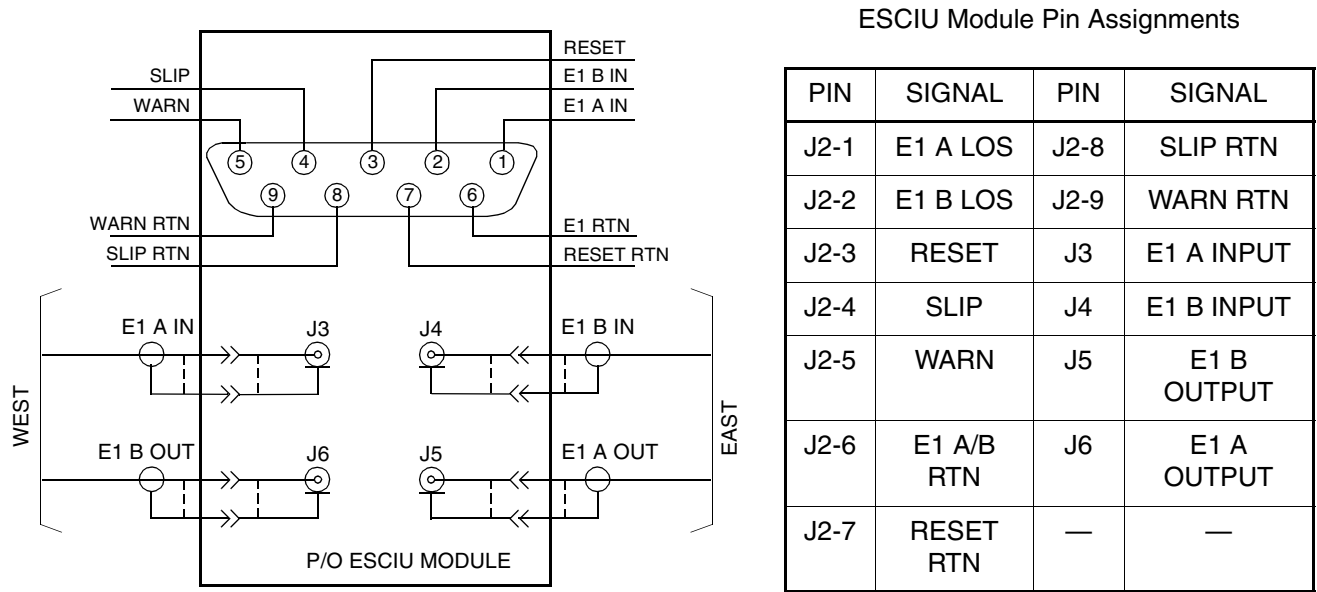
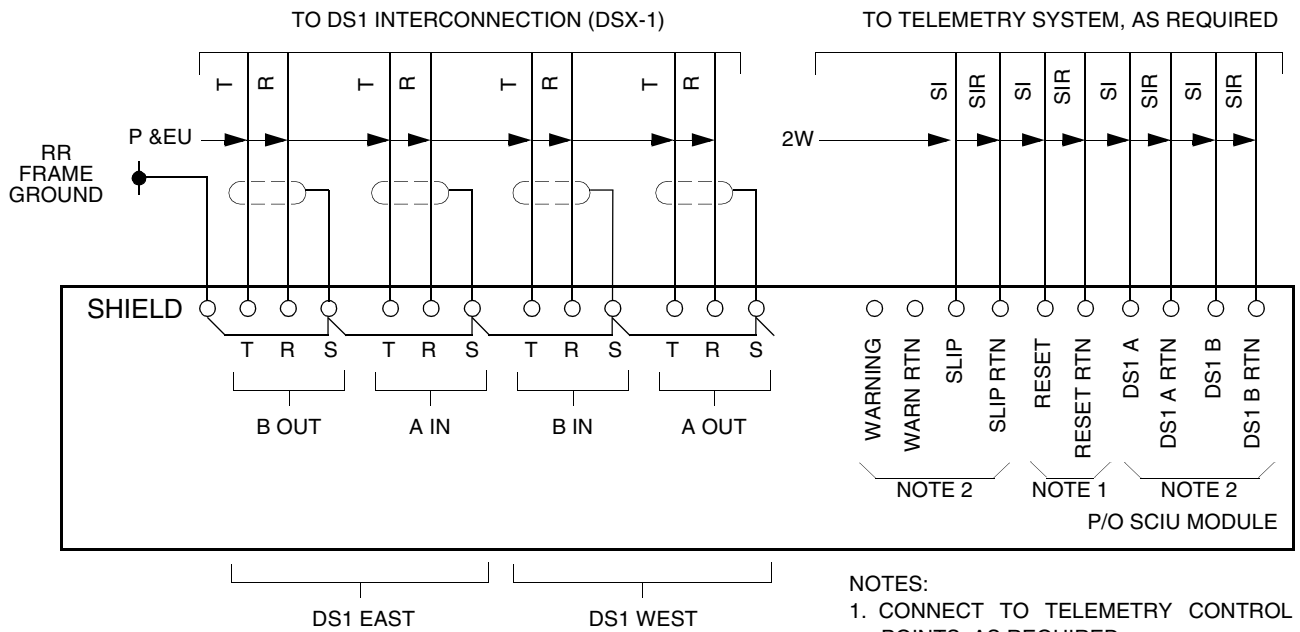
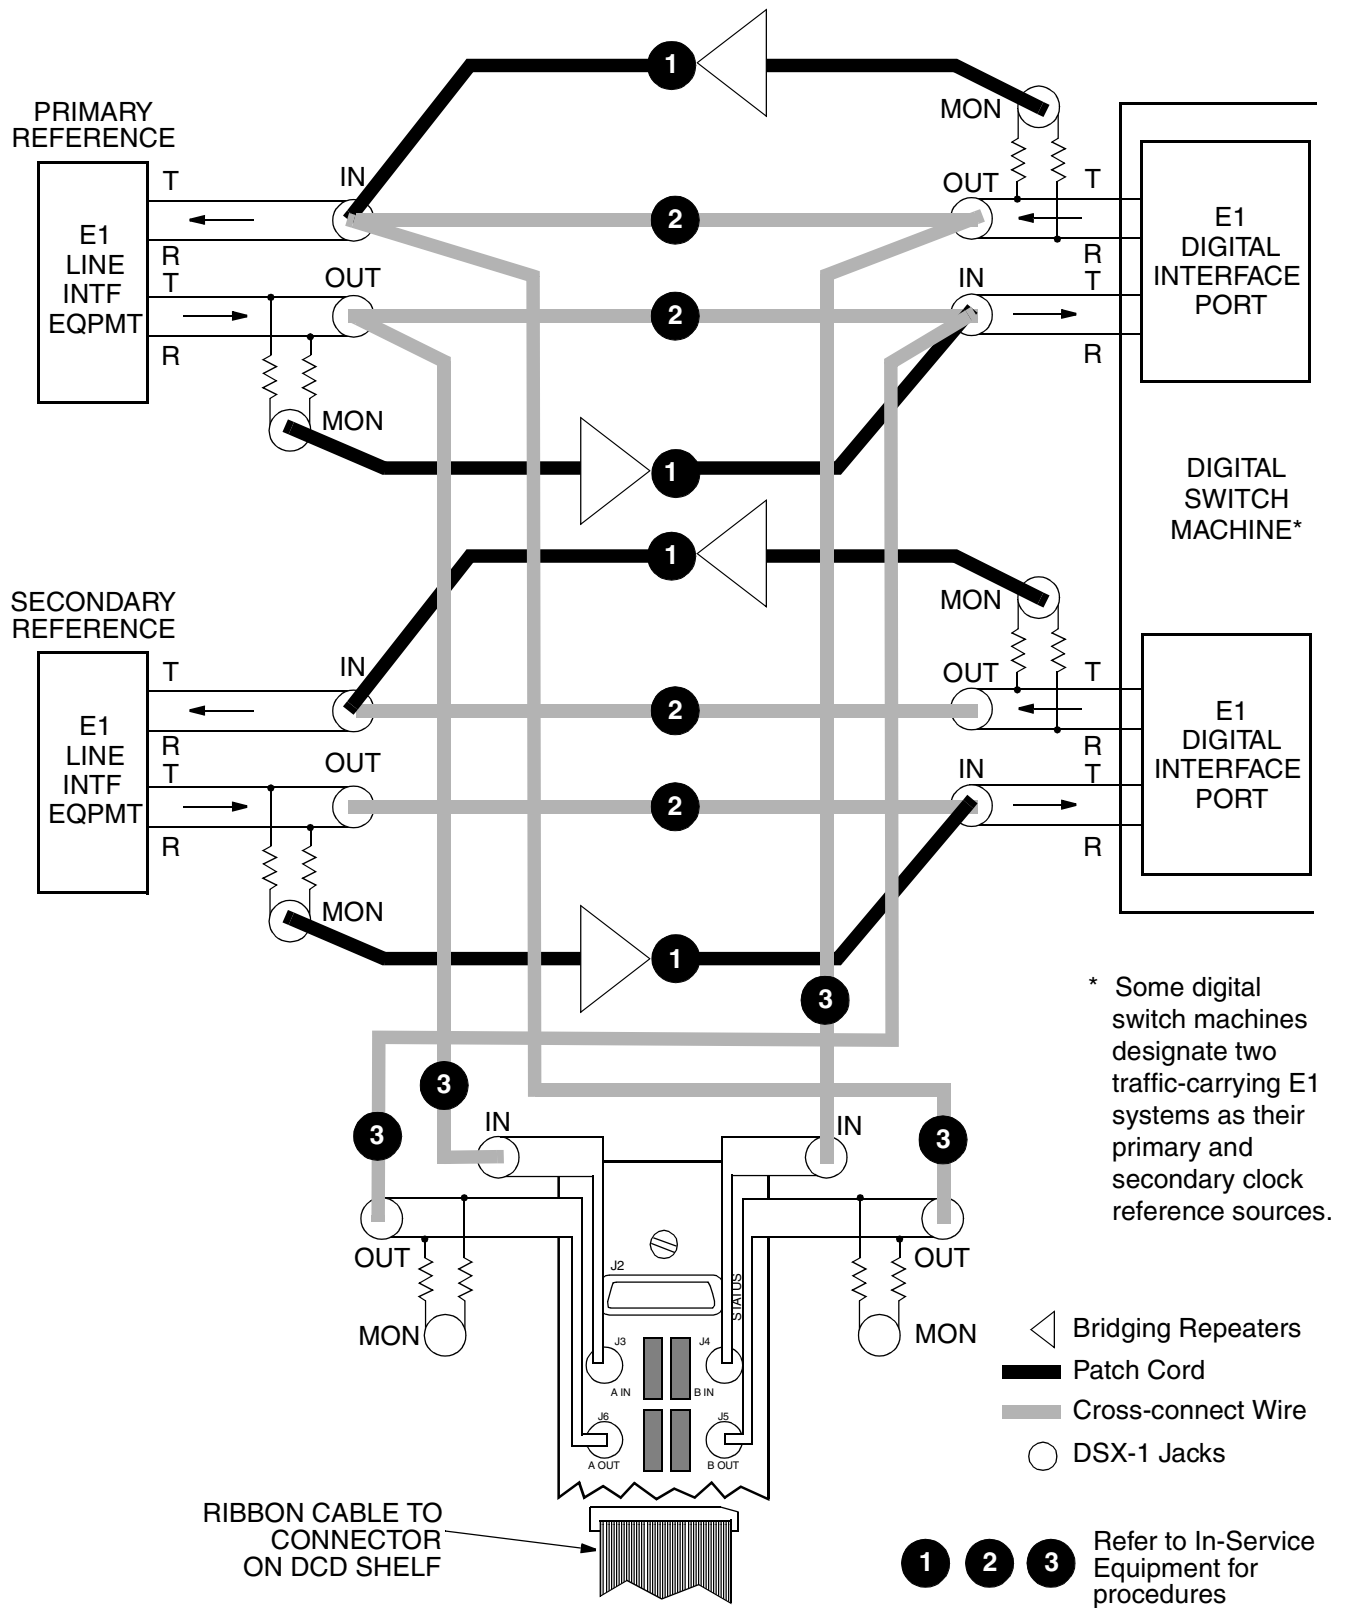

Figure 43. ESCIU Interface Module
Figure 44. SCIU Interface Module
Figure 47. ESCIU Cutover with Jacks (In-Service)
1. For 75 Ω impedance, use BT 3002 or equivalent cable (user-supplied), to connect the ESCIU or SCIU module EAST and WEST terminals to the two network elements on the spans; refer to Table V and Figure 43, or Figure 44 and Table W.
1. Use the appropriate cable to connect from the DB9 connector (J2) on the ESCIU or SCIU module to alarm monitoring equipment; refer to Figure 43 or Figure 44 and Table Y.
5.34 If standard digital signal level access jack sets, such as DSX-1 jacks, were cabled to the ESCIU or SCIU module, the following in-service cutover procedure must be used. Consult the local company Installation Job Specifications to ensure that the network element to be retimed from the DCD-519 HD shelf clock (BITS) will be connected to the ESCIU or SCIU module WEST A OUT terminals (see Figure 43). Refer to Figure 47 or Figure 48 for the following procedure: